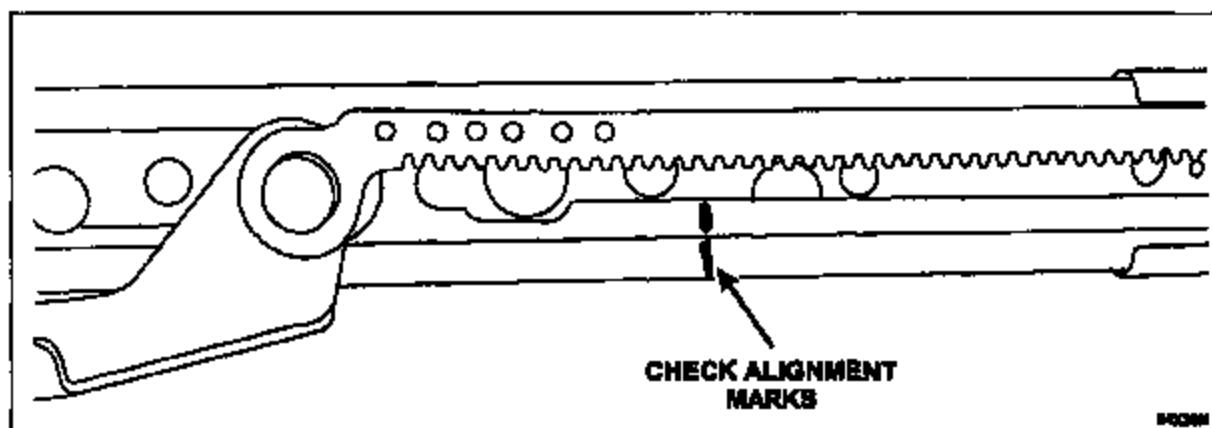

FIGURE 14
3. Check to make sure the index marks on the outboard track C-channel and plastic-coated slide are still in alignment. If necessary, slide the track to realign the marks. See Figure 14.